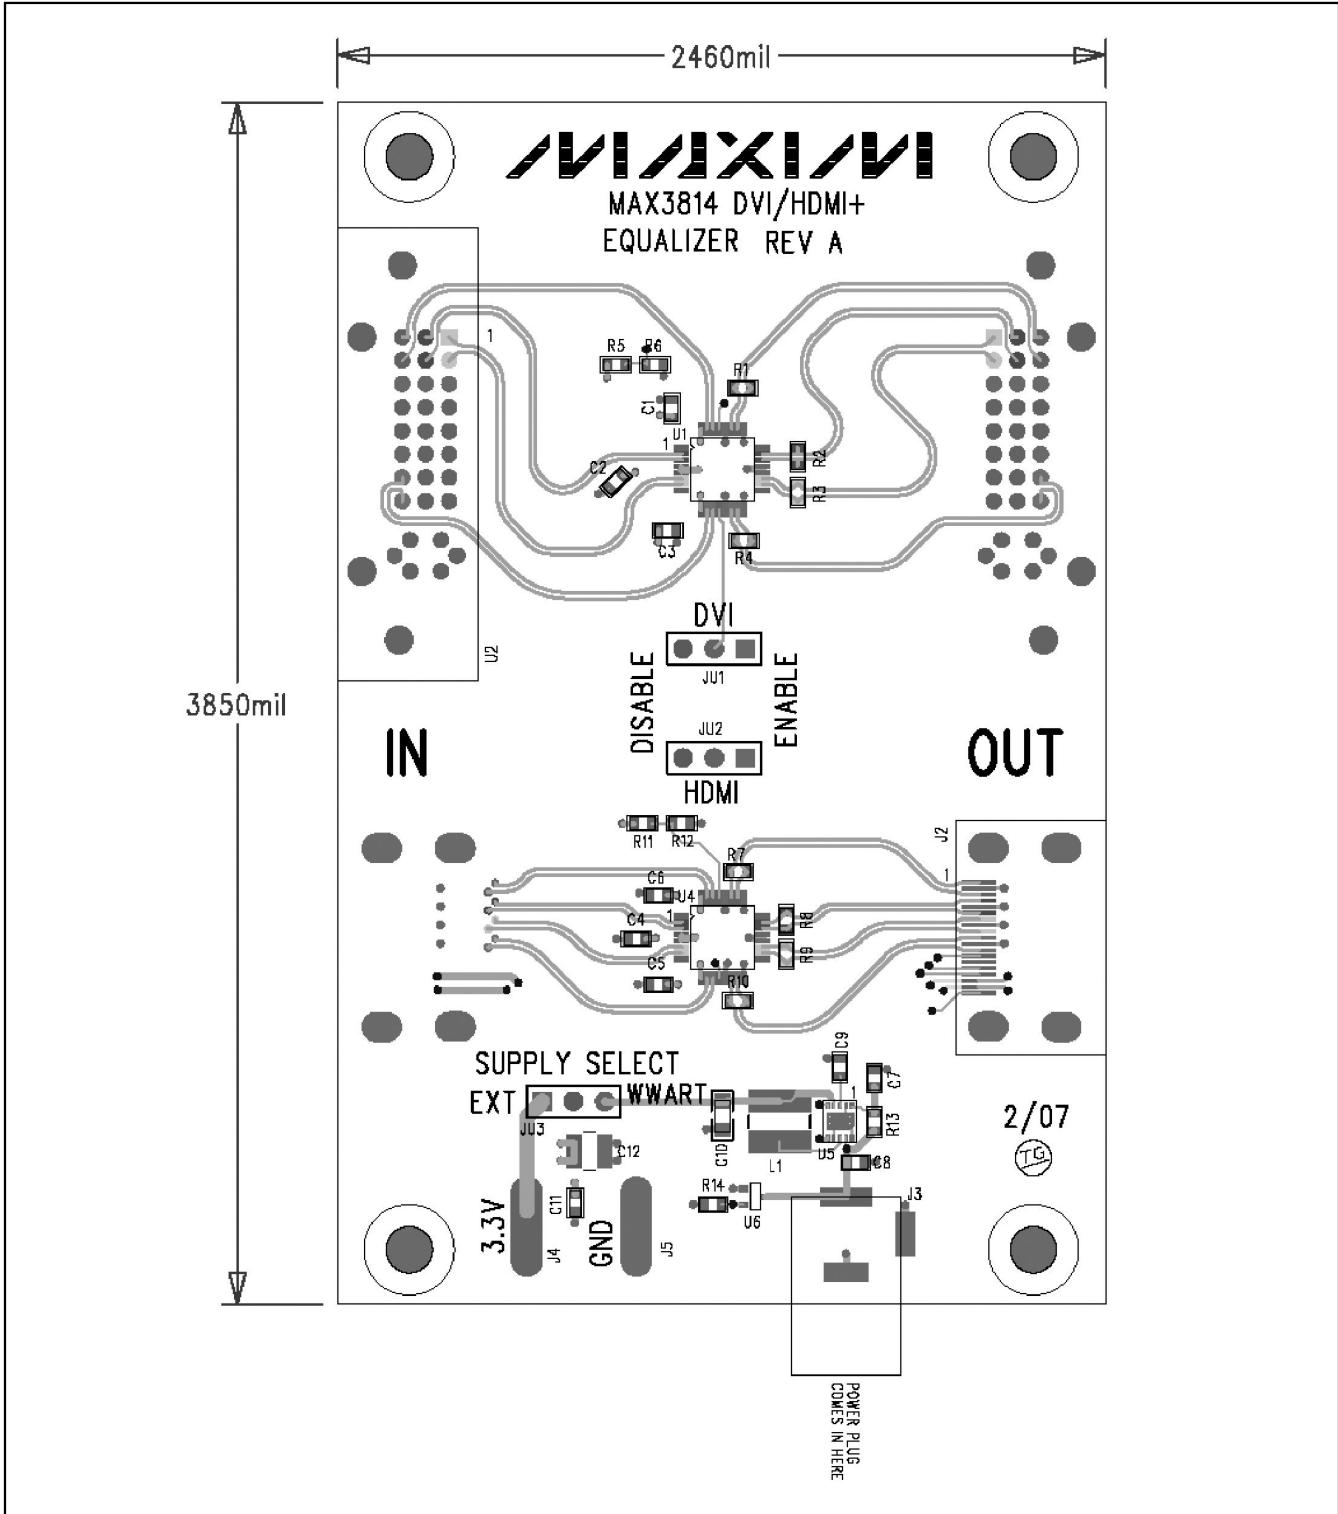

Figure 2. MAX3814 Evaluation Kit Assembly
- 2) To use a separate 3.3V supply, move the supply select jumper (JU2) to the “EXT” position. Then connect the 3.3V supply V_{CC} to J4 (3.3V) and ground to J5 (GND). See Figure 2.